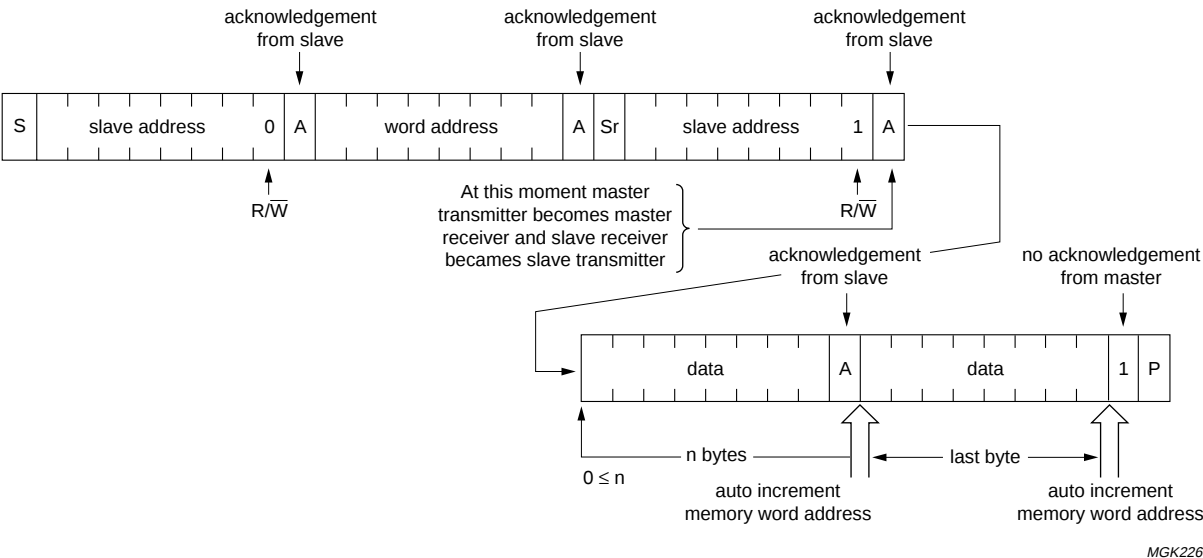

Fig.18 Random Read.
If the master wishes to read more bytes, it generates an Acknowledge ($A = 0$) after receiving each byte (Sequential Read). Any number of bytes can be read; the address pointer will wrap-around to address 00H when the highest address is read. To end Sequential Read, the master generates a No-acknowledge ($A = 1$) and a Stop (P). Figure 18 shows the Random Read and Sequential Read procedure.